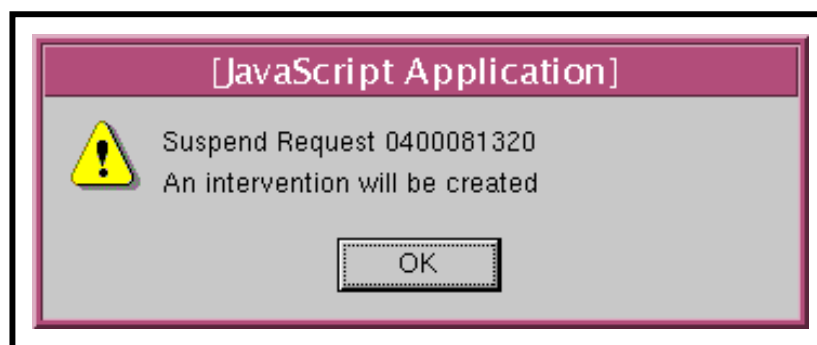

Figure 39. Suspend Request Dialogue Box
- A **Suspend Request** dialogue box (Figure 39) is displayed.
- 3 If a **Suspend Request** dialogue box (Figure 39) is displayed, click on the **OK** button: